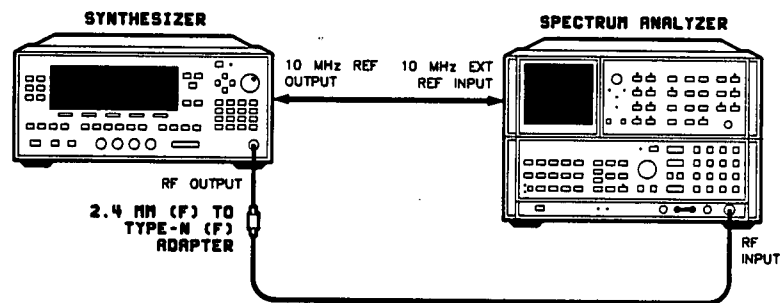

Figure 2-15. Pulse Modulation On/Off Ratio Test Setup
1. Connect the equipment as shown in figure 2-15. Preset all instruments and let them warm up for at least one hour.